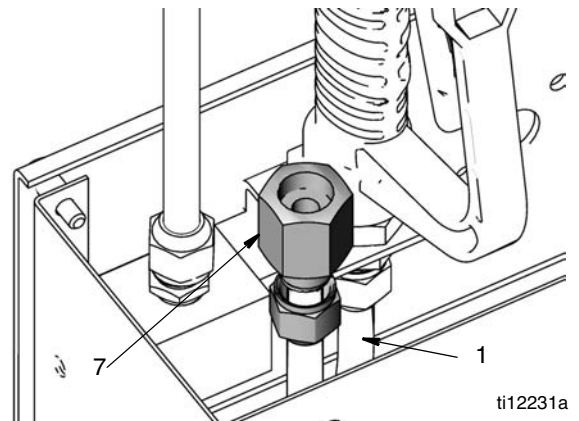

FIG. 24
3. Disconnect fluid inlet tube (1) from fluid inlet fitting (7) (FIG. 24).